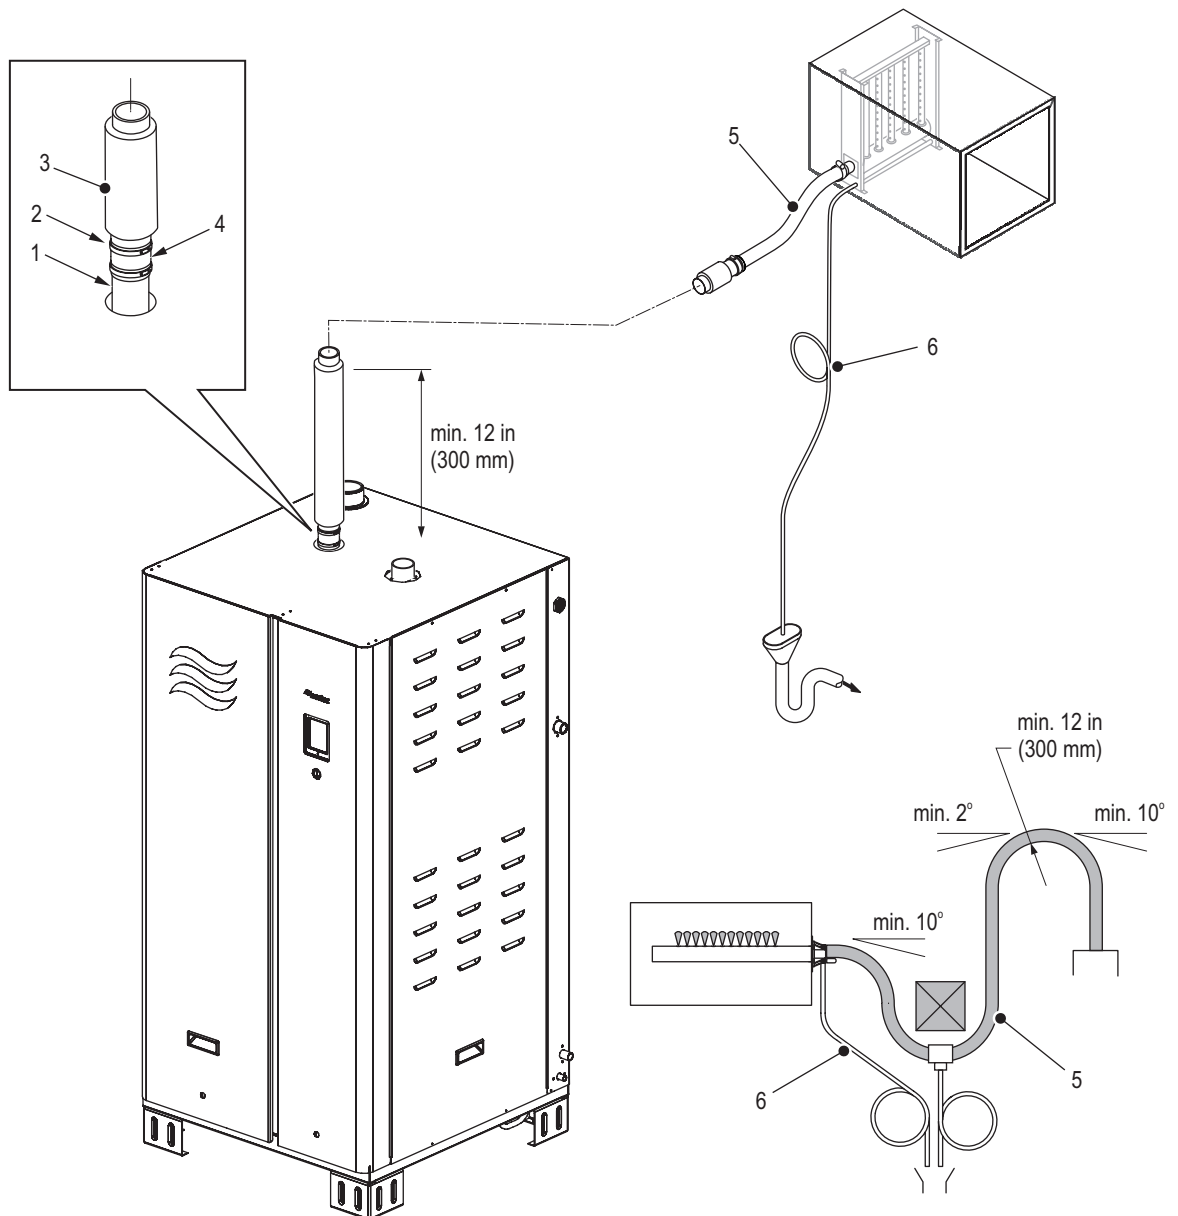
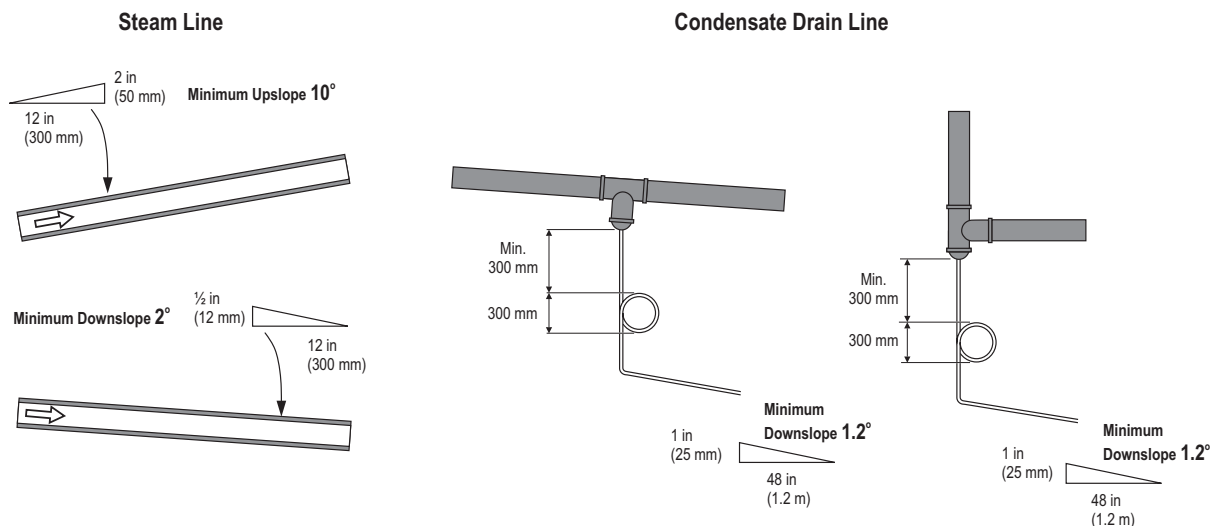

Figure 12: Main Steam Line Installation
Figure 13: Steam and Condensate Line
- The steam line from the humidifier must lead straight upwards for a minimum of 12 in (300 mm), before continuing on to the steam distribution system – refer to Figure 12 on page 29. The steam line must have a minimum upslope of 10°, or a minimum downslope of 2° – refer to Figure 13 on page 31.
- Condensate traps must also be installed at all low points and at horizontal-to-vertical transitions in the steam line. The condensate drain lines should always connect to full-size "Tee" connectors in the steam line. Refer to Figure 13 on page 31.